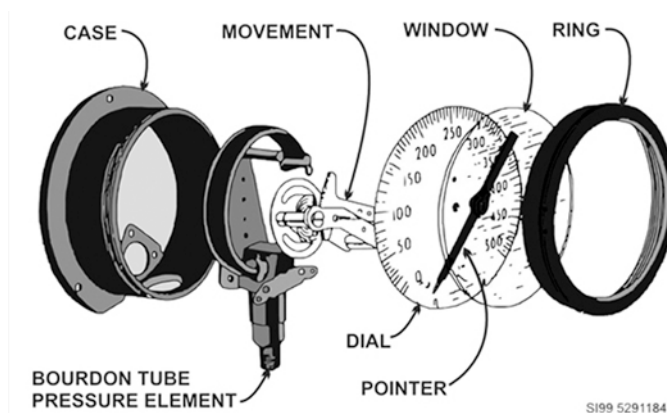

Figure 3-11. Typical bourdon tube pressure gauge.
Three kinds of basic pressure gauges are used throughout the fuel systems: (1) *high-pressure gauges*, (2) *pressure-vacuum gauges*, and (3) *low-pressure or DP gauges*. High-pressure and pressure-vacuum gauges use a bourdon tube, movement, dial, and pointer set in a case with a window to indicate pressure (fig. 3-11). As we have explained earlier, pressure sensed in the bourdon tube tries to expand or straighten the tube, while vacuum tries to contract it. The expansion or contraction of the tube is transferred to the pointer by means of the movement—a system of mechanical linkages.